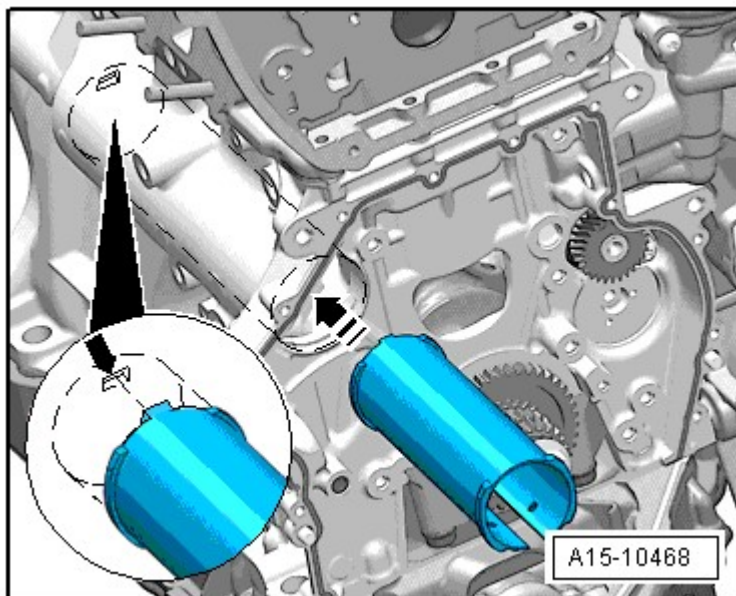

Fig. 10: Identifying Pipe For Balance Shaft - Installation Position
- Installed location, refer to **Fig. 10**